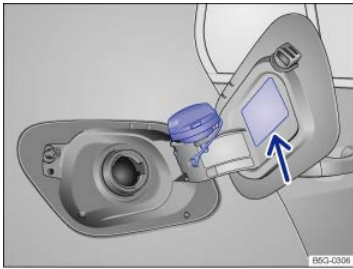

Fig. 191 Rear passenger side of vehicle: Fuel cap placed on the open fuel filler flap.
- Unscrew the fuel cap counterclockwise and remove. Use the slot on the fuel filler flap hinge ⇒ Fig. 191 to hold the cap while refueling.
The correct fuel grade for your vehicle ⇒ Fuel types is listed on a sticker on the inside of the fuel filler flap ⇒ Fig. 191 (arrow). This sticker may also be located on the hinge of the fuel filler flap.
The correct fuel grade for your engine is shown on a sticker located on the inside of the fuel filler flap ⇒ *Fig. 191*.